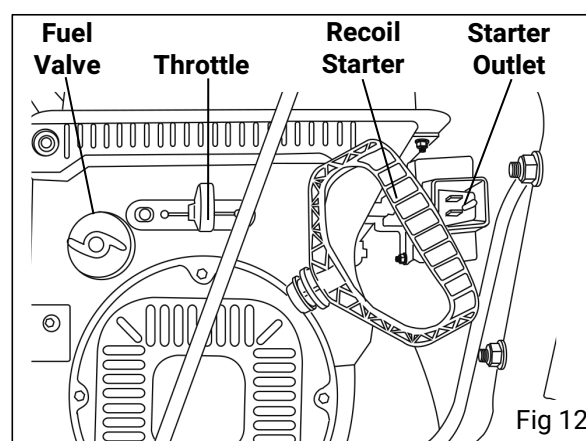

Fig 12
7. Adjust the throttle as needed (see Figure 12).